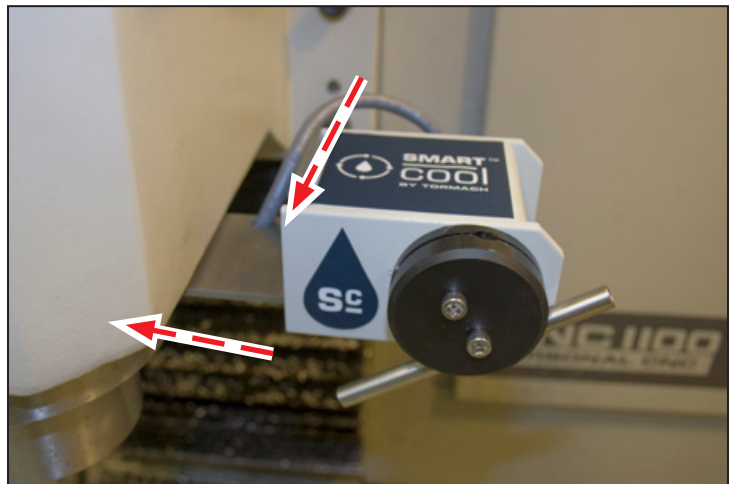

Figure 6
5. Weave control cable from SmartCool Head Unit through Mounting Bracket and underneath head casting (see **Figure 6**).